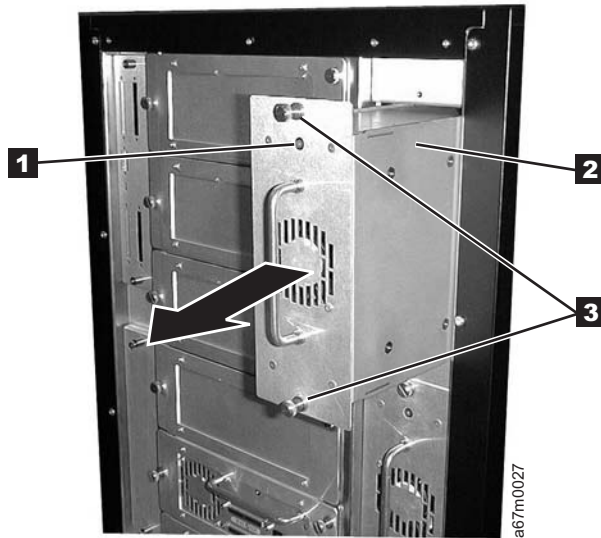

Figure 8-45. DC Power Supply Removal and Replacement. Figure shows a converted library.
See Figure 8-45 on page 8-56 for locations of components in the following procedure.
4. Loosen the two captive thumbscrews **3** located on the back of power supply, see Figure 8-45 on page 8-56 and slide dc Power Supply out of the library.
Before inserting dc Power Supply, be sure to orient Power Supply so LED indicator **1** is as seen in Figure 8-45.